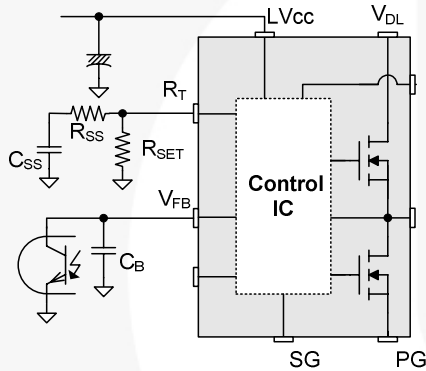

Figure 24. External Soft-Start Circuit
4. Soft-Start: At startup, the duty cycle starts increasing slowly to establish the correct working conditions for transformers, inductors, and capacitors. The voltage on the output capacitors is progressively increased to smoothly establish the required output voltage. Soft-start time is internally implemented for $15ms$ (when the operating frequency is set to $100kHz$.) In addition, to help the soft-start operation, a capacitor and a resistor would be connected on the R_T pin externally, as shown in Figure 24. Before the power supply is powered on, the capacitor C_{SS} remains fully discharged. After power-on, C_{SS} becomes charged progressively by the current